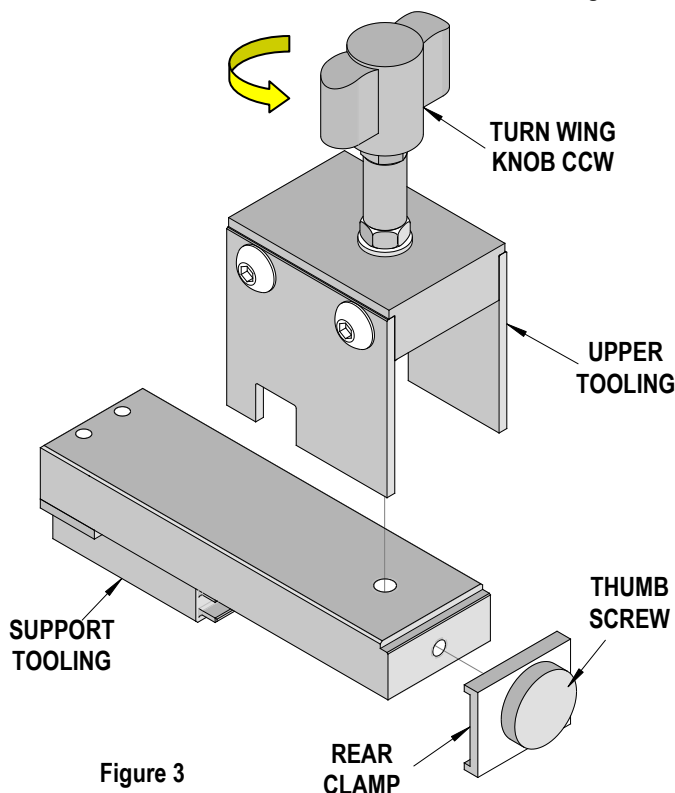

Figure 3
2. Remove the rear clamp by turning the thumb screw counterclockwise (CCW). See Figure 3.
3. Insert the support tooling into the connector assembly until it is fully seated. See Figure 3. The tooling will “snap” into the connector when fully seated.